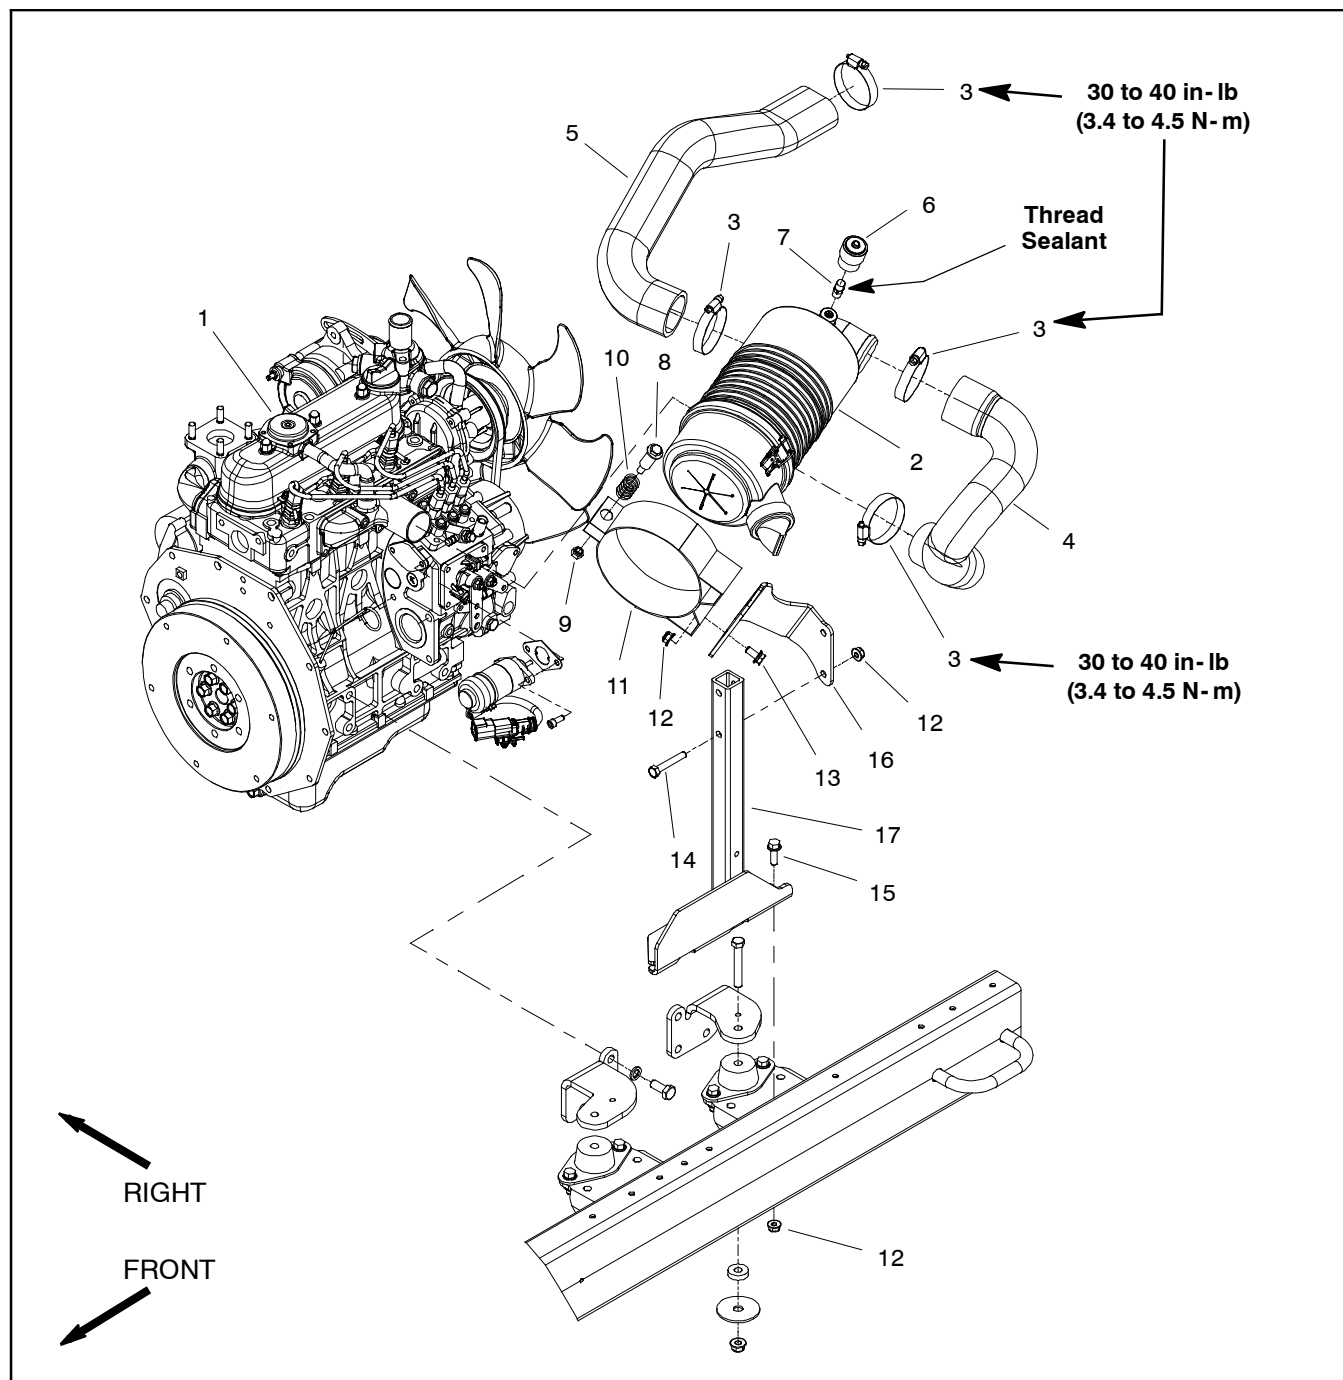
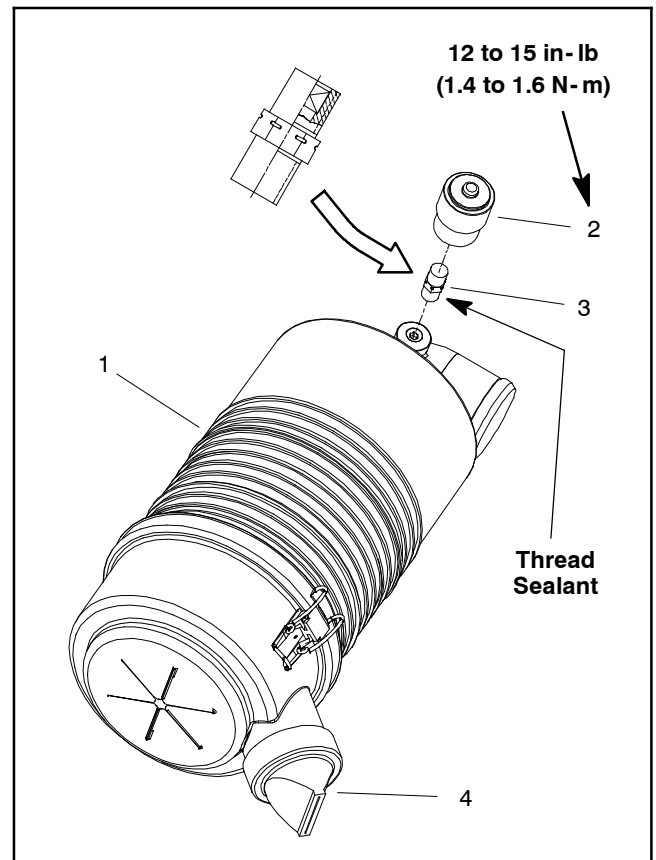

Figure 2
Figure 3
Removal (Fig. 2)
2. Remove air cleaner components as needed using Figure 2 as a guide.
Installation (Fig. 2)
1. Assemble air cleaner system using Figure 2 as a guide.
- A. If service indicator (item 6 in Fig. 2) and adapter (item 7 in Fig. 2) were removed from air cleaner housing, apply thread sealant to adapter threads before installing adapter and indicator to housing. Install adapter so that grooves in adapter hex and adapter filter element are installed toward service indicator (shown in Fig. 3). Torque indicator from **12 to 15 in-lb (1.4 to 1.6 N-m)**.